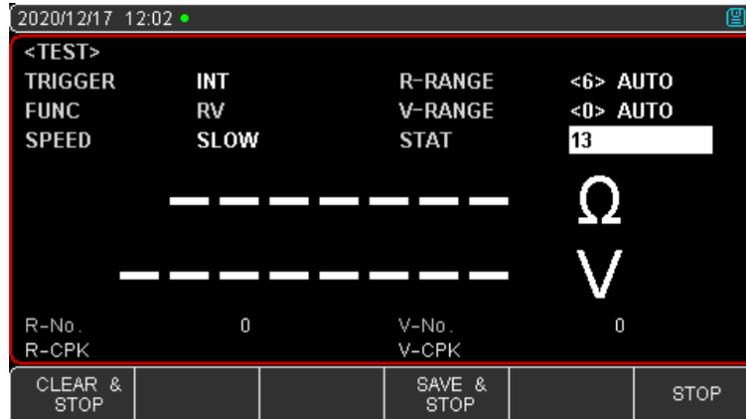

Figure 6-2-3 Statistical Operation Interface Display
6. After the data statistics are automatically started, you can use the function key to stop the current statistics at any time; you can also save the data to the U disk at any time; you can also stop and clear the cached data, as shown in Figure 6-2-3.